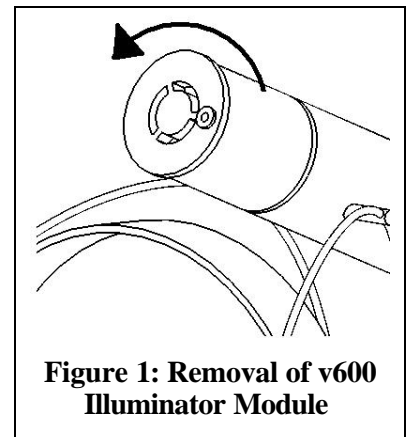

Figure 1: Removal of v600 Illuminator Module
- 4) Remove the old *Illuminator Module* from the optics tube by rotating it counter-clockwise as shown in Figure 1.
The v300/v600 Series is equipped with one of the most sophisticated diagnostic systems of any lighting or vision system in the medical world. A powerful microprocessor constantly monitors the entire system of the lighting and cooling to ensure maximum performance. Part of this computer's function set is a display of the *Illuminator Module's* (1 in Fig 1) condition. Three colored LED's are visible through the air outlet vents on the rear of the illuminator.
A typical life span for an *Illuminator Module* (1 in Fig 1) is in excess of 400 hours. For the first year of use, should your illuminator fail prior to 400 hours, a pro-rated warranty will apply.